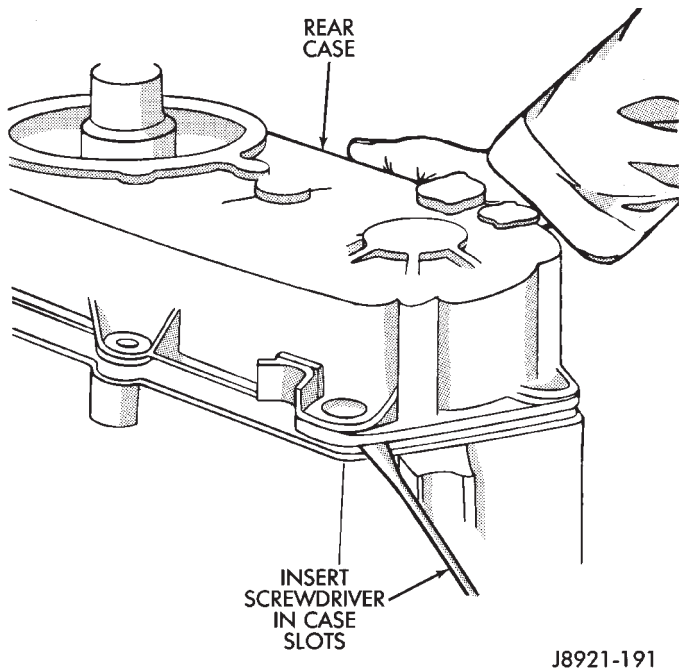

Fig. 10 Loosening Rear Case
(10) Remove bolts attaching rear case to front case. Retain bolts and the washers.
(11) Loosen rear case with two screwdrivers (Fig. 10). Insert screwdrivers into slots cast in case ends. Then gently pry upward to break sealer bead.